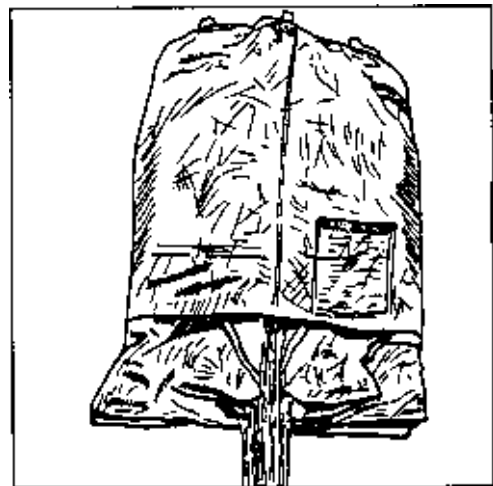

Figure 2
Step 9 Pull the slider up to the base of the canopy to the slider stops. Fold the stabilizers over the slider at 45 degrees. *Figure 2*